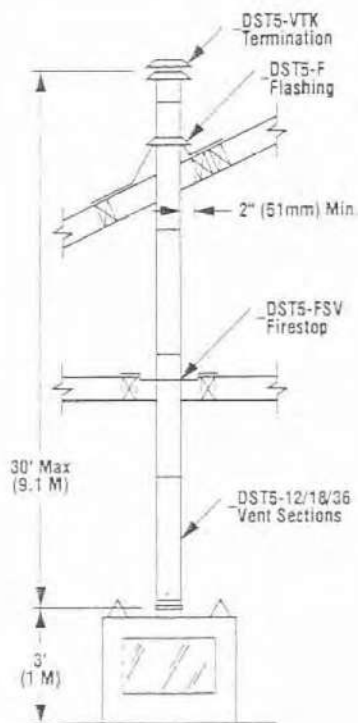
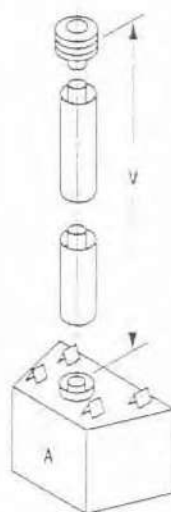

Figure 14
Figure 15 (Straight)
The Figures 14 through 16 and the Vertical Vent Table on page 8 illustrate the various vertical venting configurations that are possible for use with these top vent appliances. The maximum vertical height for the _DVT6 system is 30' (7.6 m) above the top of the appliance. Figures 15 and 16 along with Vertical Vent Table identify: (A) straight vertical system and (B) vertical system that employs two (2) 90° elbows. The Vertical Vent Table summarizes each system's minimum and maximum vertical and horizontal values that can be used to design and install the vent components in a variety of applications.